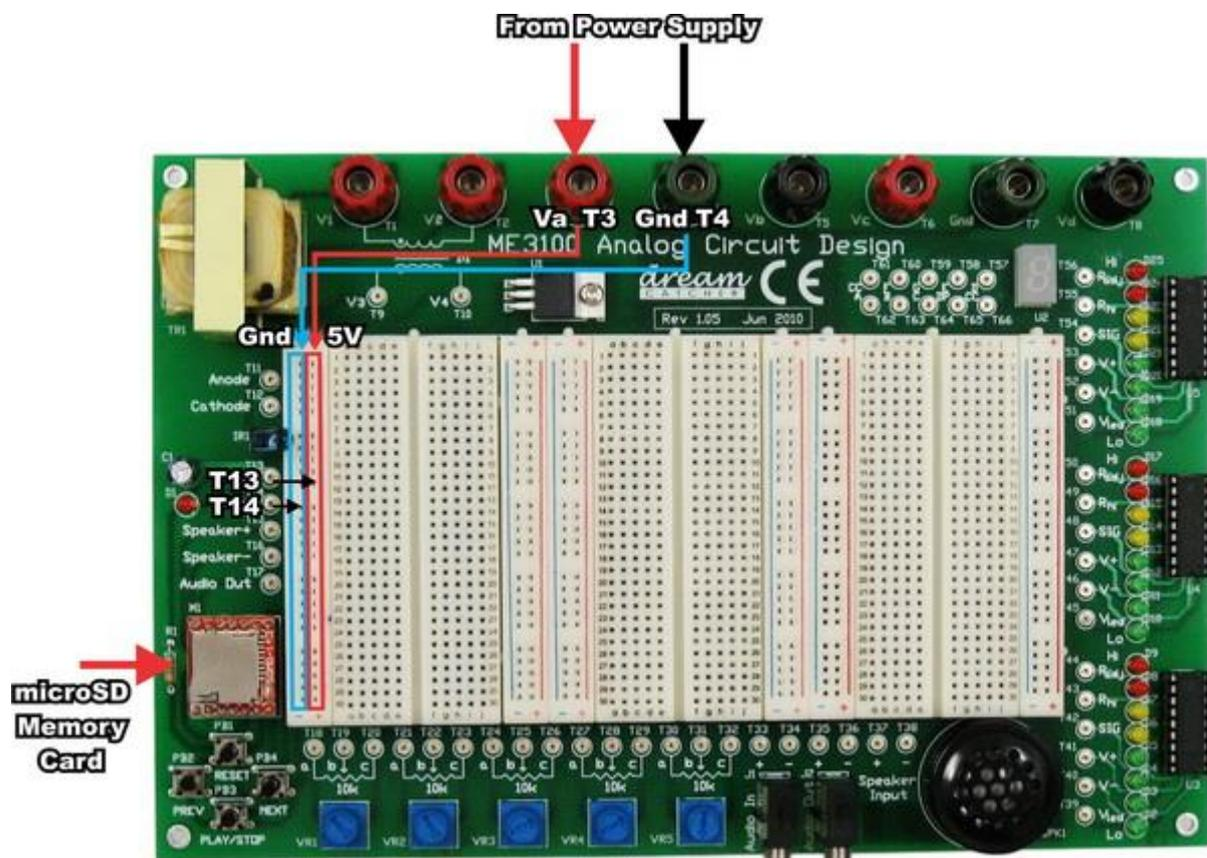

Figure 1 – Connections Between the Power Supply and the ME3100 Analog Circuit Design Kit
4. Connect the **+5 V** power supply output to test points **T3 (Va)** and **GND** to **T4 (Gnd)** of the ME3100 Analog Circuit Design kit respectively. This is shown in Figure 1.
5. Extend the power source from **T3 (5 V)** and **T4 (Gnd)** to the breadboard as shown in Figure 1.
1. Remain the same connections of the ME3100 Analog Circuit Design kit as shown in Figure 1.